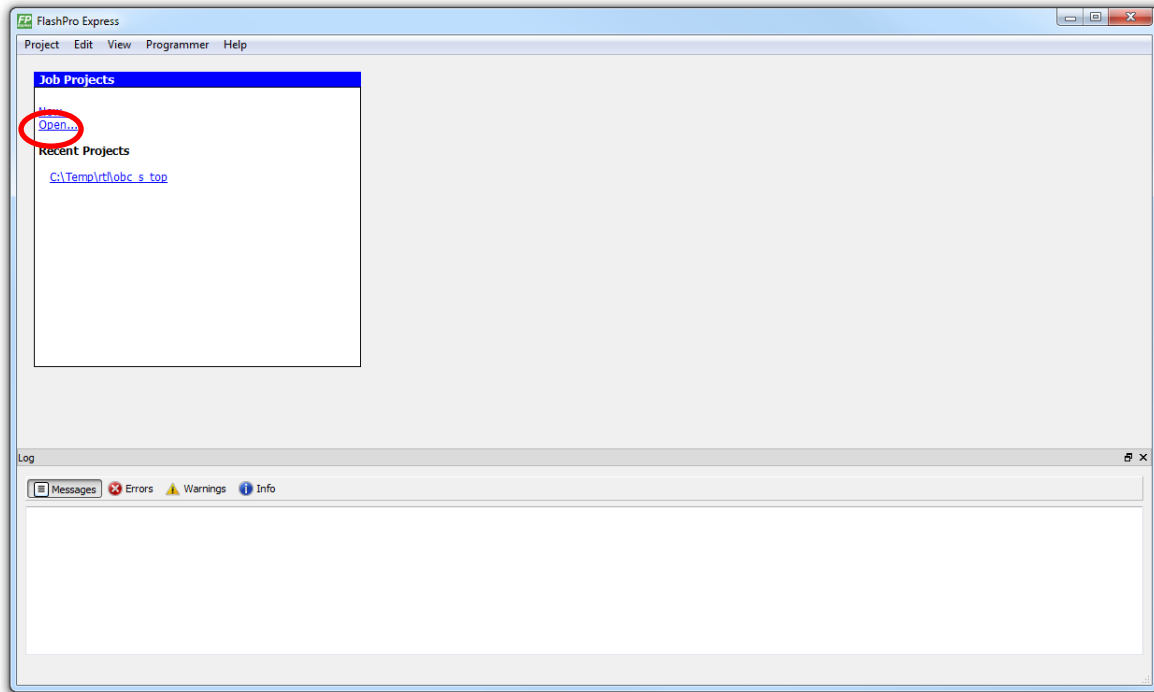

Figure 10-1 - Startup view of FlashPro Express
4. Start the FlashPro Express application, click "Open..." in the "Job Projects" box (see Figure 10-1) and select the supplied .pro file.